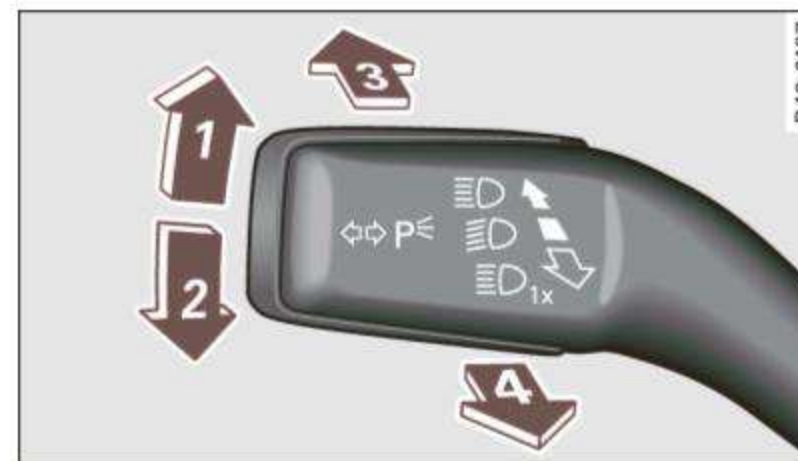

Fig. 47 Turn signal and high beam lever
- Lift the lever up all the way ⇒ fig. 47 to use the right turn signals , or push the lever down all the way to use the left turn signals .